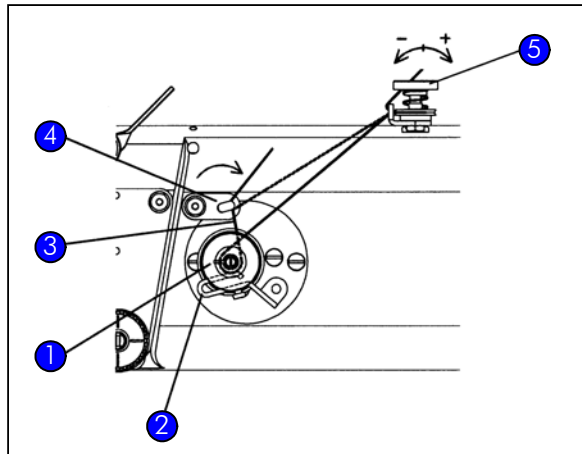

Figure 21 Winding the lower thread
- ▶ Thread the lower thread through the tension controller 5 and thread guide, as shown in Figure 21.